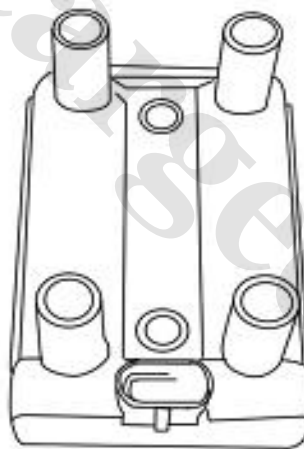

Fig. 1-17
**(4) Trouble diagnosis:** The short and open circuit of the two coils of the idle speed stepper motor will be monitored by the ECU. When such troubles occur, the engine MIL will be lighted and the engine will be operated under trouble mode. If the engine fails to work normally after check the steps of the stepper motor with a diagnostic instrument, the intake air pressure should be checked to ensure the normal operation of the piston of the stepper motor.
**10. Ignition coil (Fig. 1-17)**